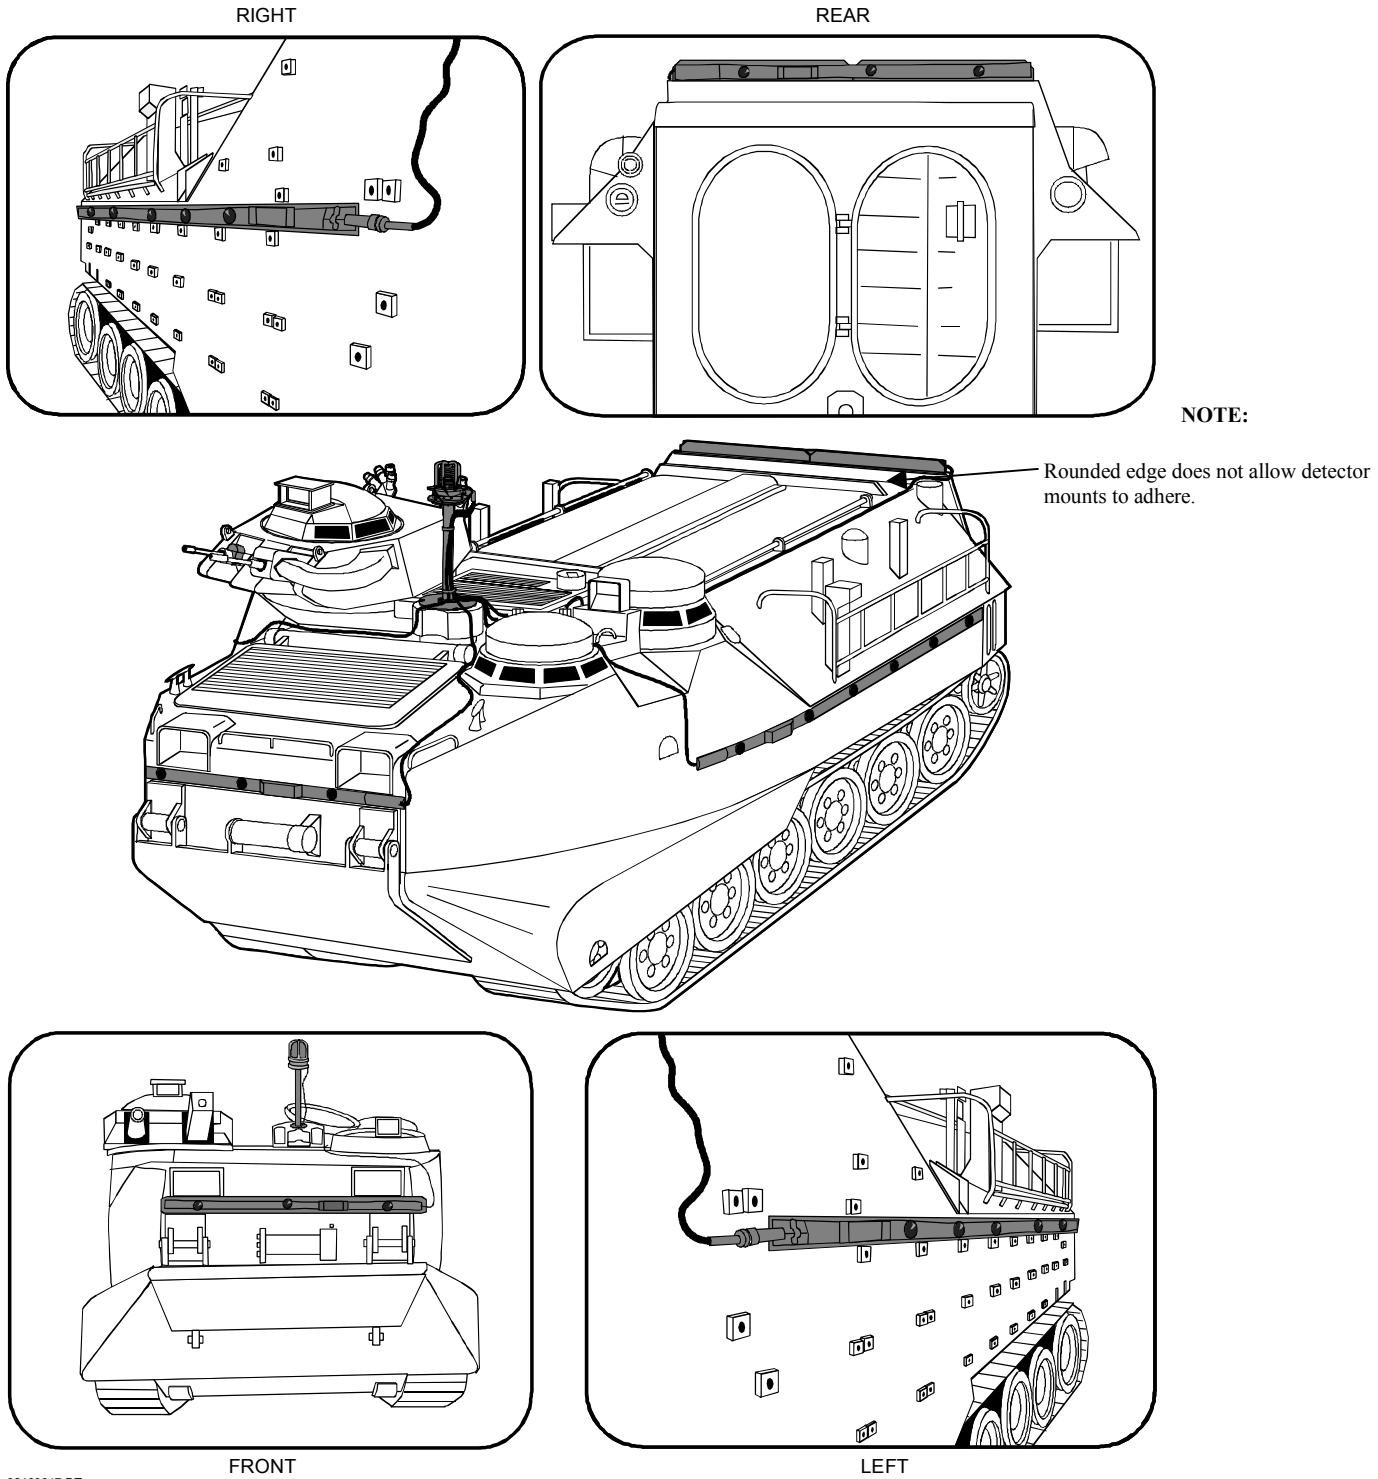

Figure 2-8. Detector Belts.
2.3.1.2 **Detector Belt Fastener Tape.** (See Figure 2-8.)
- a. Begin by applying fastener tape at the right front side where the slant and side meet. (See Figure 2-8.) Apply fastener tape to match the outline.
- a. Begin by applying fastener tape at the left front side where the slant and side meet. (See Figure 2-8.) Apply fastener tape to match the outline.
- a. Begin by applying fastener tape at the front swim line just below the headlights. (See Figure 2-8.) Apply fastener tape to match the outline.